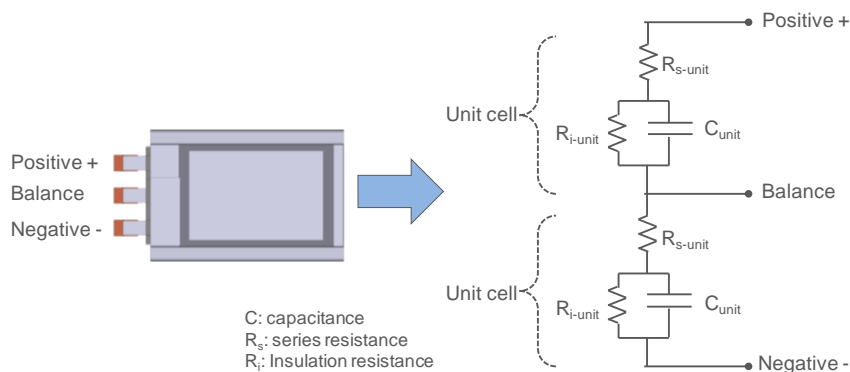
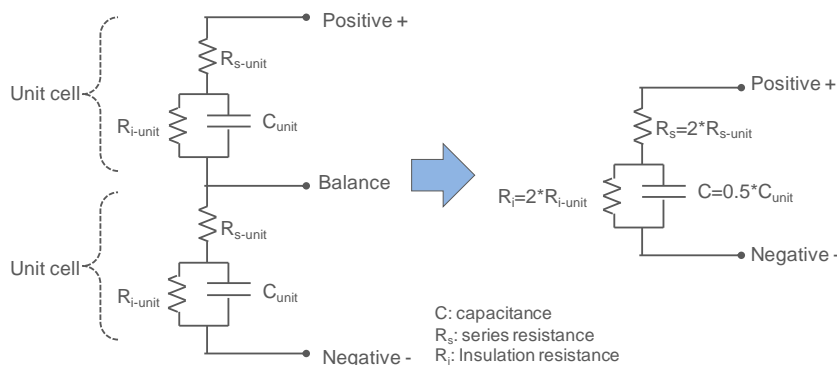

Fig. 6 Murata’s supercapacitor has two of unit cell in one package
Fig. 7 Simple equivalent circuit model
In general, capacitors can be described by using combination of a capacitor (C), a series resistance ( $R_s$ ) and an insulation resistance ( $R_i$ ). Murata’s supercapacitors have two unit cells (unit capacitors) which are connected in series in one package. Therefore an equivalent circuit model is described as Fig. 6. The model can be combined to a simpler one such as Fig. 7. In this case, total capacitance value is equal to half of the unit cell and total resistance values are equal to two times of the unit cell.